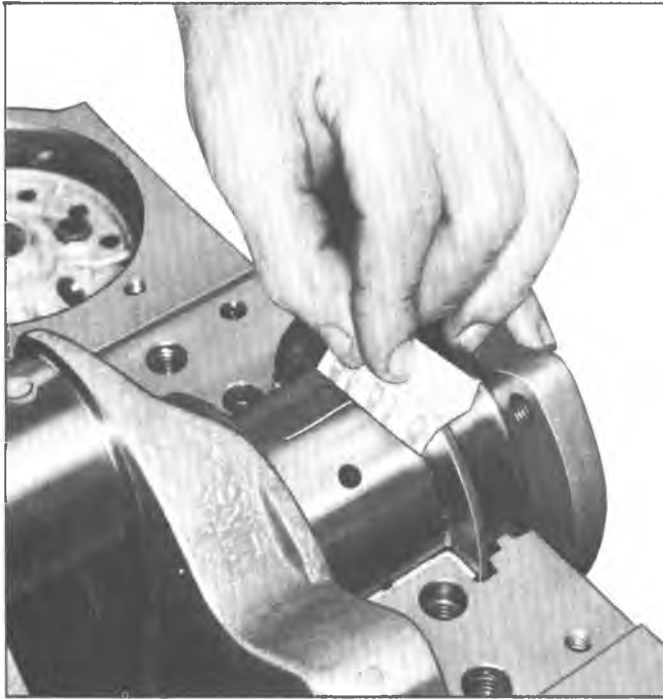

Fig. 40—Measuring Gauging Plastic
5. On the edge of gauging plastic envelope there is a graduated scale which is correlated in thousandths of an inch. Without removing the gauging plastic, measure its compressed width (at the widest point) with the graduations on the gauging plastic envelope (fig. 40).